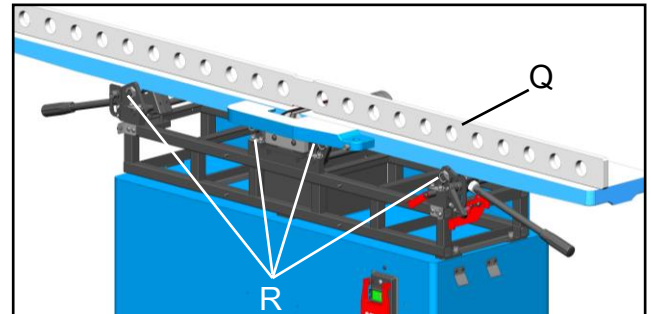

Fig. 17
6. Set a straightedge (Q) on the front that must cross the infeed table & outfeed table, adjust 4 eccentric sleeves (R) by 24mm open wrench. Keep checking the level of the tables with a straightedge until leveling is achieved, Fig. 17.